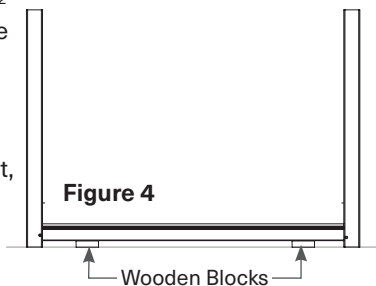

Figure 4
- Level the horizontal bottom rail with the lowest level of the rail about 2” above the ground. If necessary, put wooden blocks while securing the rail profile to both H-Posts (Figure 4).